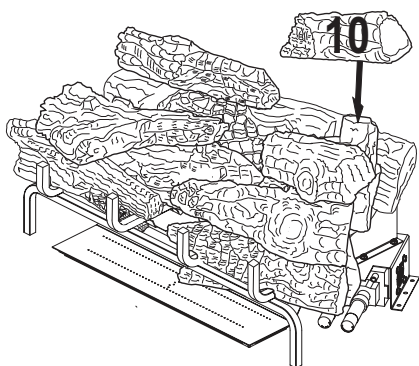

Figure 46 - Installing Log # 10
10. Place the right rear top log (#10) on top of the right rear chunk log (#7) as shown in Figure 46, page 24. Match the rectangular peg on the top of the right rear chunk log (#7) with the rectangular hole on the bottom of the right rear top log (#10).